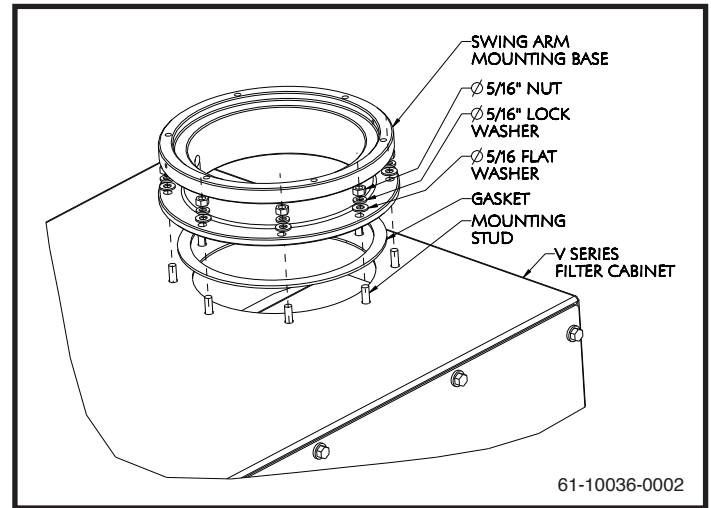

**Figure 2. Swing Arm Installation Detail**
2. Remove nuts, lock washer and flat washer from the studs on the cabinet (refer to Figure 2).
3. Position flange gasket(s) inside the protruding studs on top of the unit (refer to Figure 2).
4. Position the swing arm mounting base into place over the mounting studs. Ensure gasket is positioned properly between unit and base flange. Secure swing arm to cabinet top with the recently removed hardware (refer to Figure 2). Avoid sharp pulls on the arm or hood as well as over-tightening the pivot section since damage to the arm components could result.